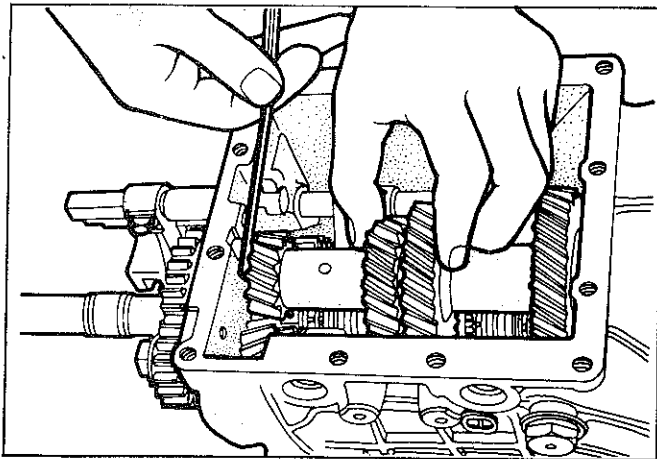

Fig. 22—Checking cluster gear end play
(26) Temporarily install the cluster gear, thrust washers and shaft and measure the end play of the cluster gear. If the end play is not within specification, replace the rear thrust washer with a suitable thickness washer, Fig. 22.